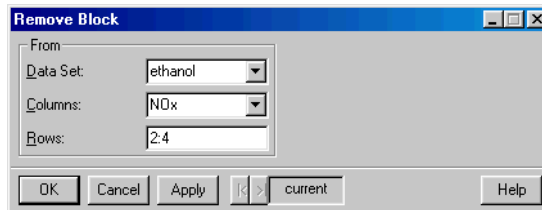

Figure 2.26: *The **Remove Block** dialog.*
- From the main menu, choose **Data ► Remove ► Block**. The **Remove Block** dialog opens, as shown in Figure 2.26.